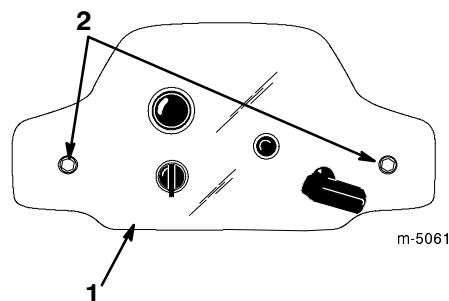

Figure 18
1. Remove the two mounting screws that secure the control panel to the housing (Fig. 18).